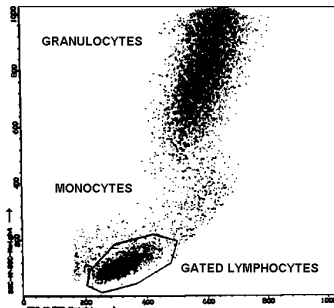

Figure 1. Dot Plot (FSC vs. SSC) represents whole lysed blood (lymphocyte gated).
- E. Gate around the lymphocyte region and obtain peak channel and mean (Fig. 1, 2, and 3).